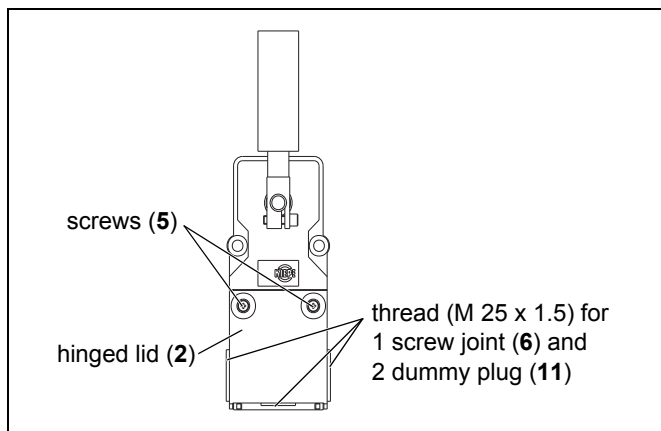

Fig. 5-5: Connection of the misalignment switch
2. Turn a screw joint (6) into the thread (M 25 x 1.5) of the misalignment switch .
3. Seal the other two openings with the dummy plug (11)
4. Loosen the two screws (5) and open the hinged lid (2) (see Fig. 5-5).
5. Pull the connection cable through the screw joint (6) (see Fig. 5-5).
9. Close the hinged lid (**2**) and tighten both screws (**5**) to a **tightening torque of 0.4 Nm** (see *Fig. 5-5*).
4. Rotate the roller lever (3) into the required position and tighten the socket head screw (9) to a **tightening torque of 4 Nm to 4.5 Nm**.
5. Close the hinged lid (2) of the misalignment switch MAS 001 and tighten both screws (5) to a **tightening torque of 0.4 Nm** (see Fig. 5-5).